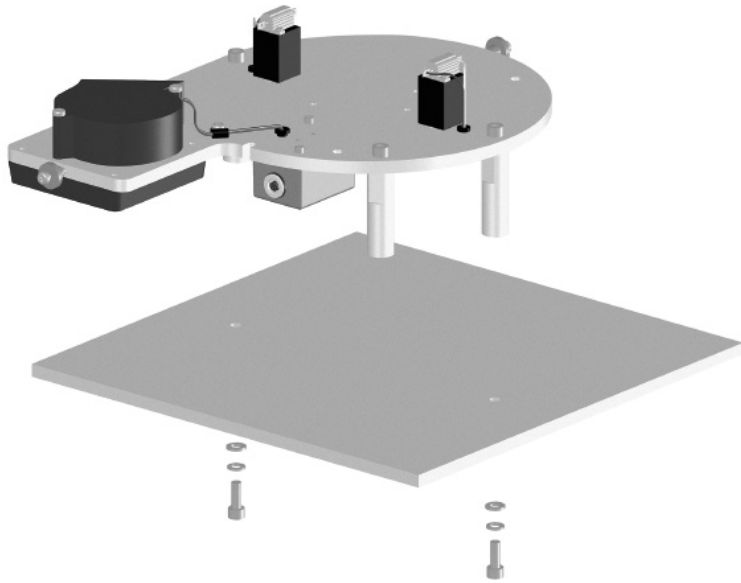

Figure B-6. Mounting CVF4 feet to a mounting stand
4. Fasten the CVF4 feet to the mounting stand by using the supplied washers and screws (Figure B-6 [p. 24]).